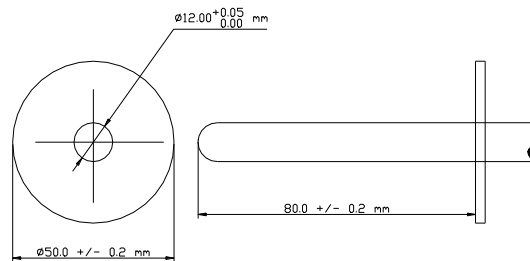

Figure 4 Dimension of UL Probe
- a. Test probe (Figure 4)
The Test probe may not make contact with energized parts while the access doors and covers of the system enclosure are open. Separable connectors must be disconnected for this test. The figure 4 shows the dimensions of the Test probe.
The requirements for the Probe position are not clearly specified by UL and IEC. However, assuming the worst-case scenario where the backplane connector is accessible, the following 3D model was created. The receptacle connector is tested by test probe in the areas shown in the figure 4.